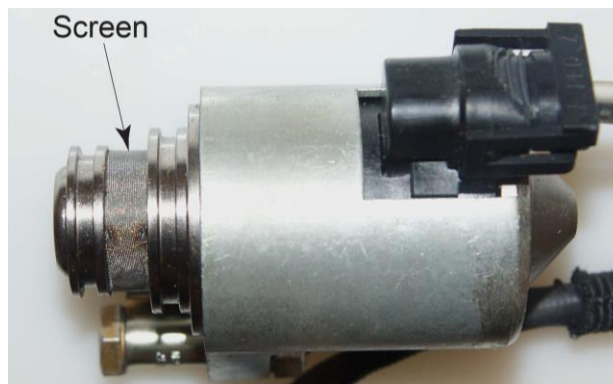

Figure 1
2. Hand-wipe the wastegate solenoid valve screen (Figure 1) with a clean lint-free cloth soaked with Avgas or Mineral Spirits as necessary to remove any accumulated debris. **Do not use compressed air to clean the screen or the solenoid outlet.**